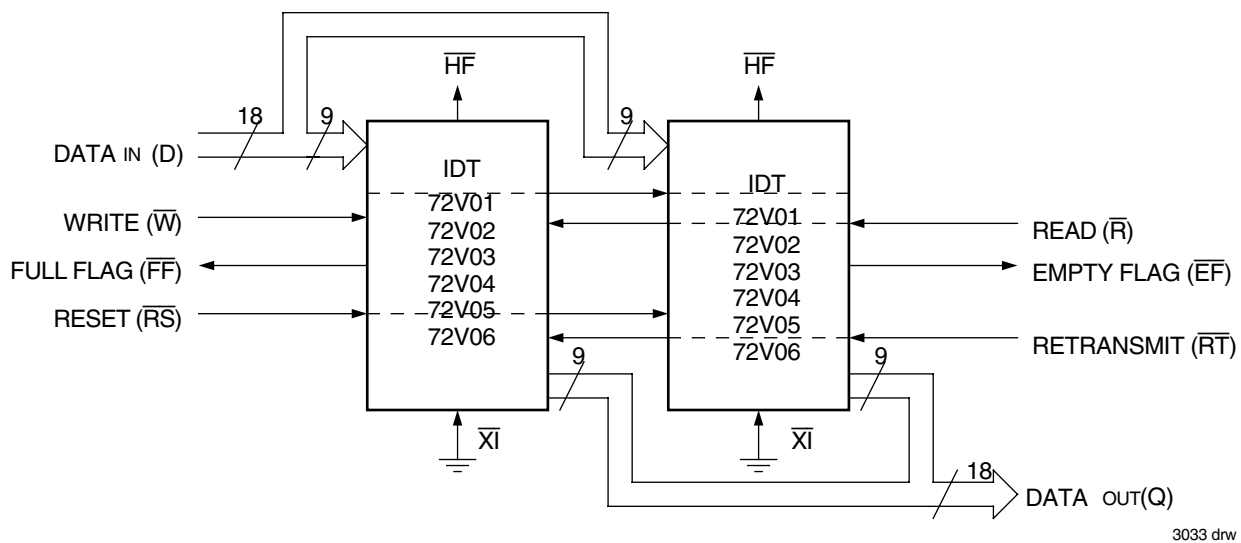

Figure 13. Block Diagram of 512 x 18, 1,024 x 18, 2,048 x 18, 4,096 x 18, 8,192 x 18 and 16,384 x 18 FIFO Memory Used in Width Expansion Mode
Word width may be increased simply by connecting the corresponding input control signals of multiple devices. Status flags ($\overline{EF}$, $\overline{FF}$ and $\overline{HF}$) can be detected from any one device. Figure 13 demonstrates an 18-bit word width by using two IDT72V01/72V02/72V03/72V04/72V05/72V06s. Any word width can be attained by adding additional IDT72V01/72V02/72V03/72V04/72V05/72V06s (Figure 13).
2. For Flag detection see section on Width Expansion and Figure 13.